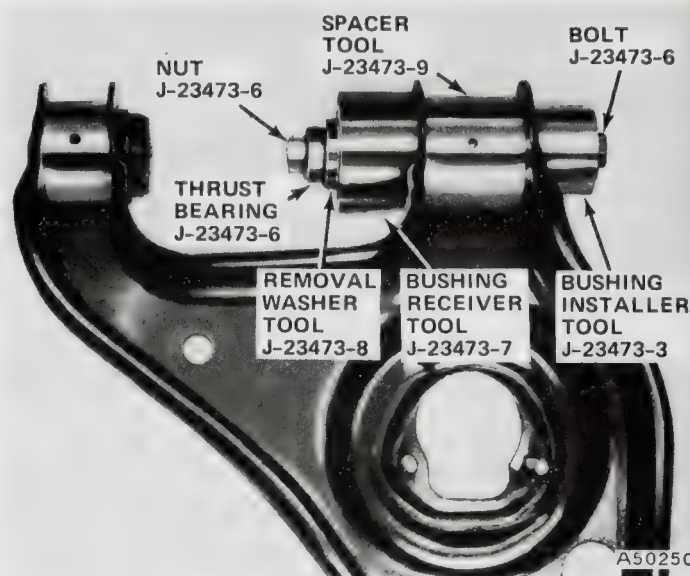

Fig. 2M-46 Lower Control Arm Front Bushing Installation
(4) Tighten nut to press front bushing into lower control arm (fig. 2M-46).
(5) Remove bushing installation tools and remove Spacer Tool J-23473-9 from lower control arm.